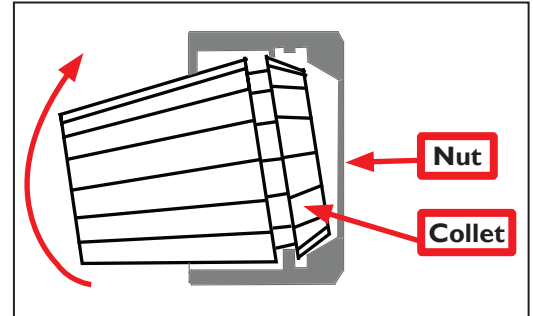
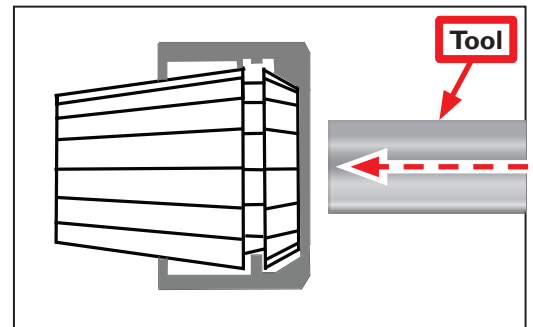

Figure 8
Figure 9
Before a tool can be installed, the Collet must be mounted in the Nut (see **Figure 8** and **Figure 9**):
1. Holding Collet at an angle (see **Figure 8**), tip Collet to snap into place in Nut as shown in **Figure 8**.
2. Insert assembly into collet holder. Tools are inserted into self-extracting Collet at location indicated in **Figure 9**.